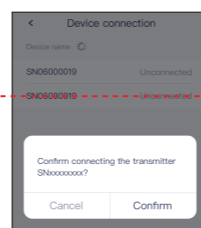

Figure 6 Connect to transmitter
- Choose the SN of your transmitter, tap Confirm to connect your transmitter to your phone, as shown in Figure 6.
- Choose either the abdomen or arm as the sensor site (Figure 6):